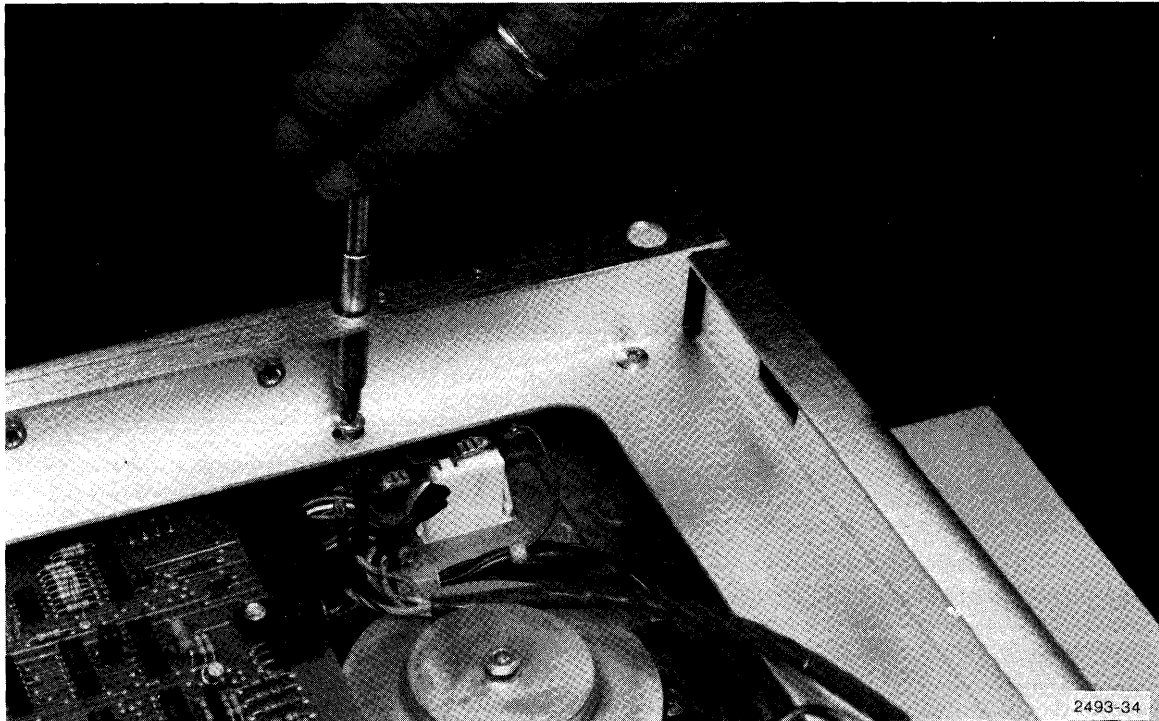

Figure 4-12. Removing Bottom Drive.
8. Reach under the drive and support with one hand while removing the four bottom screws from the cabinet and drive (Figure 4-12). This prevents the drive from dropping sharply onto the work surface.